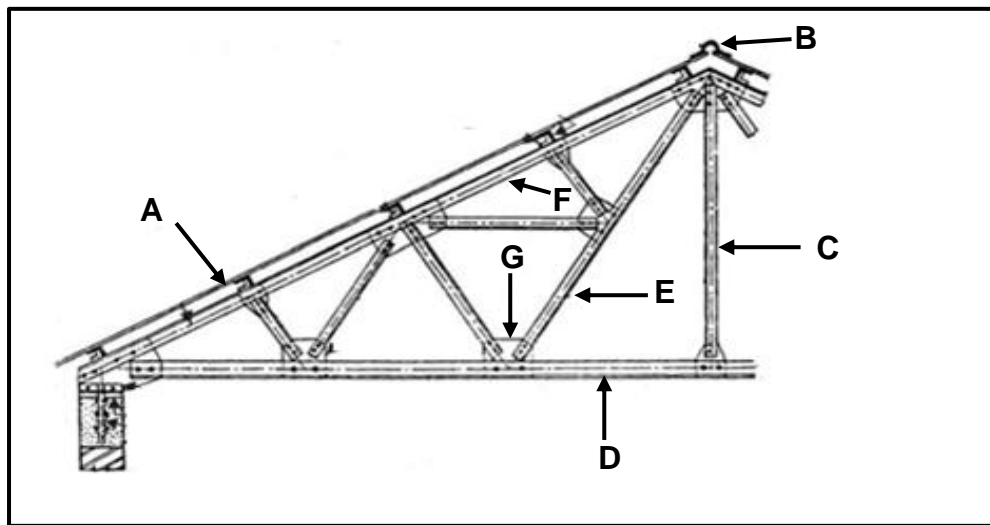

FIGURE 5.1
5.1 FIGURE 5.1 below shows a drawing of a roof truss. Label parts **A–G**.